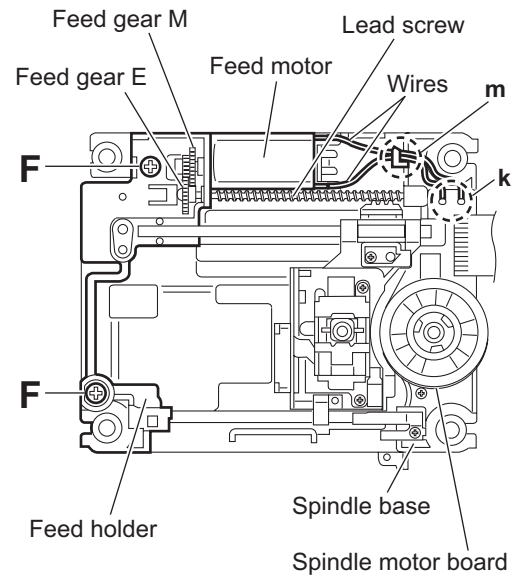

Fig.11
- (3) Remove the wires from the soldered section **k** on the spindle motor board. (See Fig.11.)
When attaching the feed motor, pass the wire through the section **m** on the spindle base. (See Fig.11.)
- (4) Remove the feed holder, feed motor, lead screw, feed gear **E** and feed gear **M** at the same time after removing the two screws **F** attaching the feed holder. (See Fig.11.)
### 3.2.7 Removing the spindle motor board (See Figs.11 and 13)
- (1) From the top side of the traverse mechanism assembly, remove the wires from the soldered section **k** on the spindle motor board. (See Fig.11.)